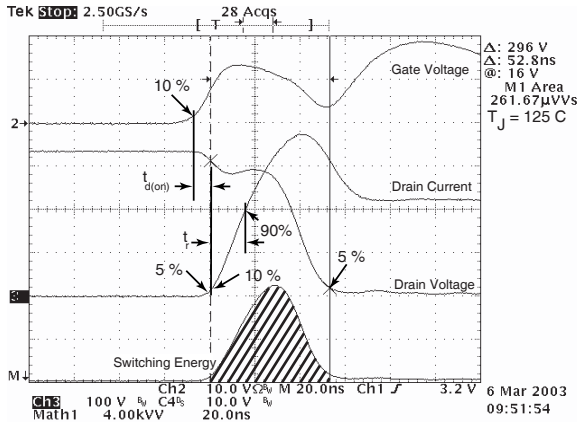

Figure 18, Turn-on Switching Waveforms and Definitions
- ① Repetitive Rating: Pulse width limited by maximum junction temperature
- ② Pulse Test: Pulse width < 380 μs, Duty Cycle < 2%
- ③ See MIL-STD-750 Method 3471
- ④ Starting TJ = +25°C, L = 3.97mH, RG = 25Ω, Peak IL = 22A
- ⑤ dv/dt numbers reflect the limitations of the test circuit rather than the device itself. IS ≤ -ID22A diS/dt ≤ 700A/μs VR ≤ VDSS TJ ≤ 150°C
- ⑥ Eon includes diode reverse recovery. See figures 18, 20.